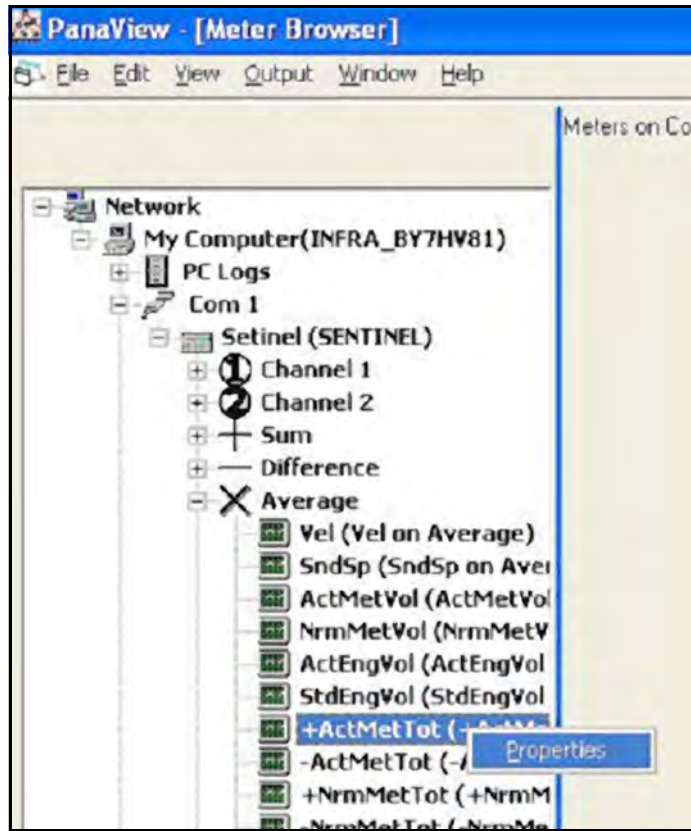

Figure 67: The Meter Browser Window
- Only the PanaView *Meter Browser* window can be used to reset the totalizers (see *Figure 67* on page 76).